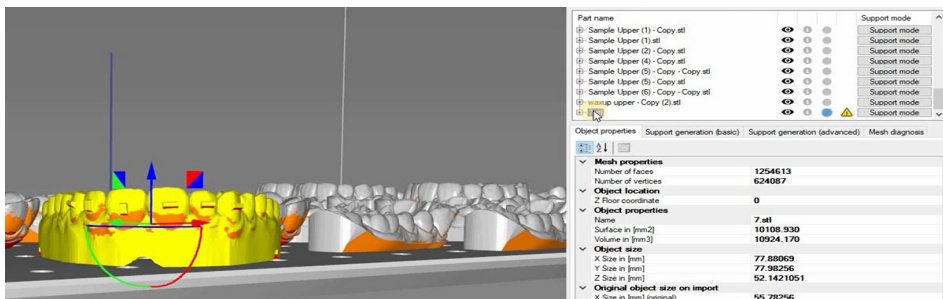

Figure 5
- To diagnose if any of your imported files has a mesh error, look at the top right window for yellow warning triangles (Figure 5).